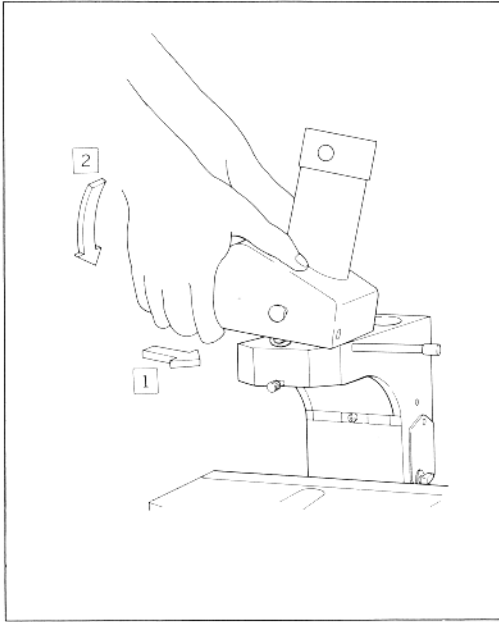

Fig. 8
- 2) Tilt the tube as shown in Fig. 8. Push it toward the clamp screw, seat it firmly in a horizontal position.